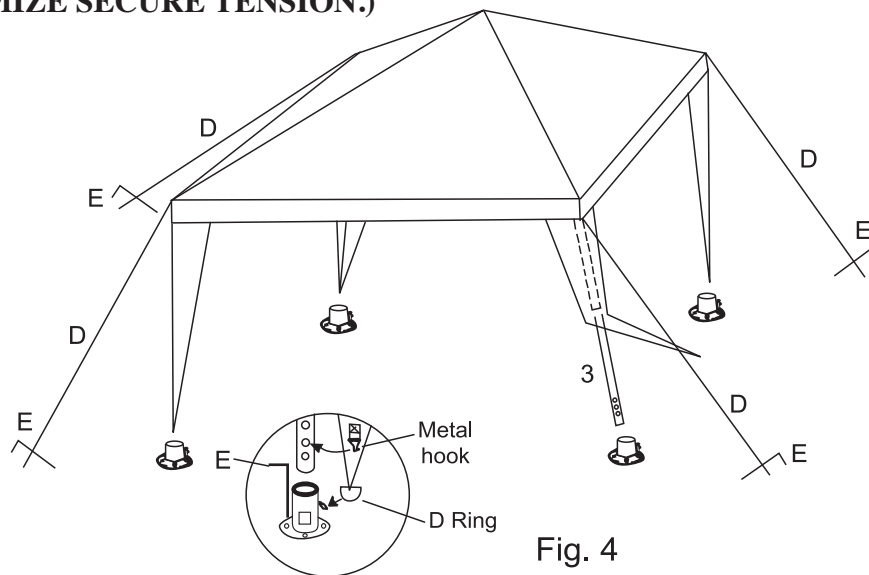

Fig. 4
ONCE THE LEGS ARE IN POSITION, ATTACH EACH LEG FLAP OF THE CANOPY ON TO TUBE NO. 3 WITH THE METAL HOOKS. SLIDE THE D RING AT THE END OF EACH LEG FLAP OF THE CANOPY OVER THE MOLDED HOOK ON EACH PLASTIC BASE (B). IF THE CANOPY BECOMES LOOSE DURING USE, REPOSITION THE METAL HOOK INTO THE NEXT HOLE DOWN UNTIL PROPER TENSION HAS BEEN ACHIEVED. SECURE THE GAZEBO TO THE GROUND USING THE STEEL STAKES (E) AND ROPES (D) PROVIDED (4 STAKES FOR 4 ROPES AND 4 STAKES ON 4 PLASTIC BASE (B)). (STAKES SHOULD BE DRIVEN INTO THE GROUND AT AN ANGLE AS SHOWN IN FIG. 4 TO MAXIMIZE SECURE TENSION.)